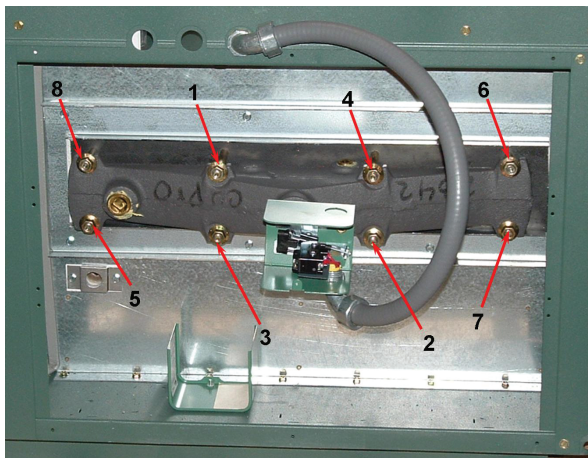

Figure 8. Torque Sequence
13. Slowly tighten the flange nuts, starting from the center nut (number 1) in **Figure 8** and working sequentially around the header as indicated. Torque all nuts to 25 ft/lb. DO NOT OVER-TIGHTEN.